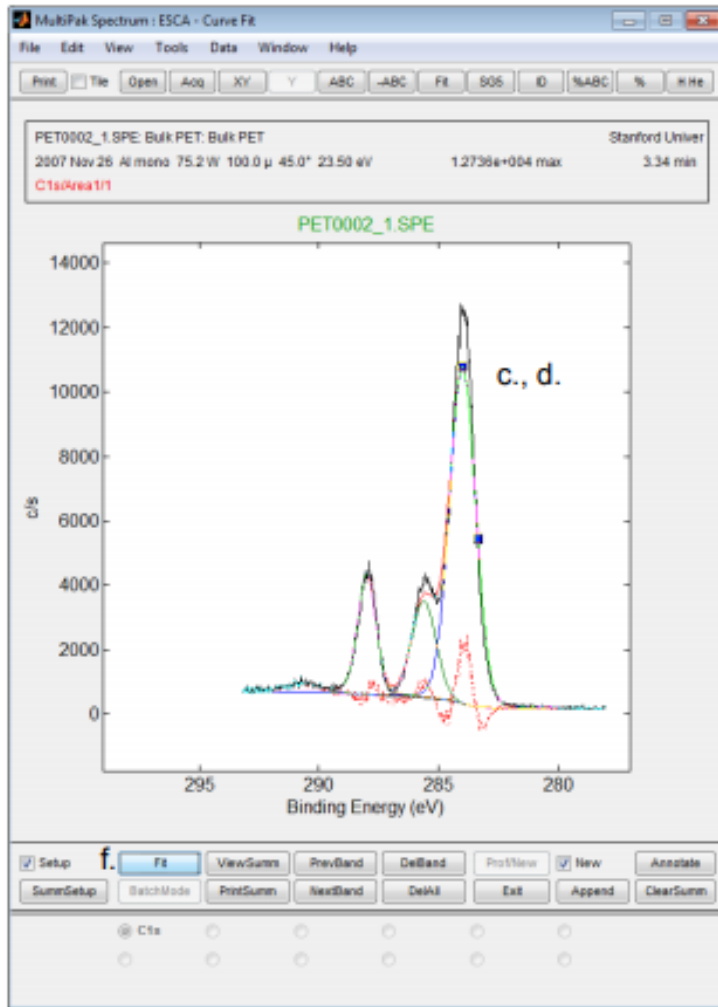

FIG 13. Adding bands to peak fit.
- d. Adjust the band position and width by using the left mouse button on the two square markers on the band (**FIG 13**).